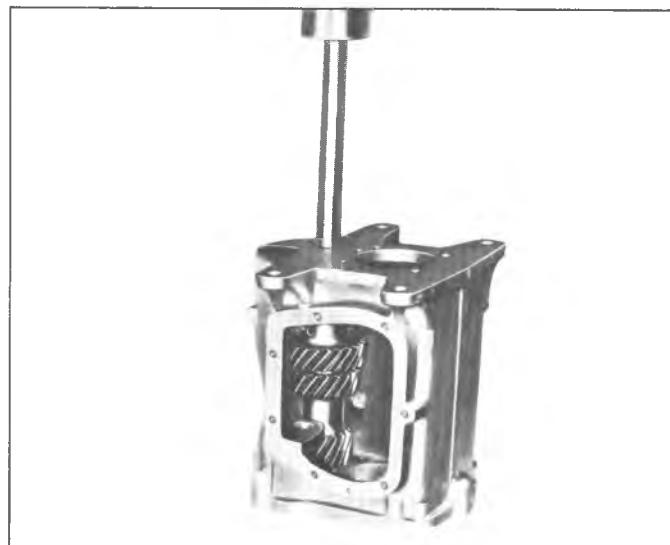

Fig. 8B--Removing Countershaft With J-22246
13. From the front of the case, press out the countershaft (fig. 8B) using Tool J-22246; then remove the countergear and both tangent washers.